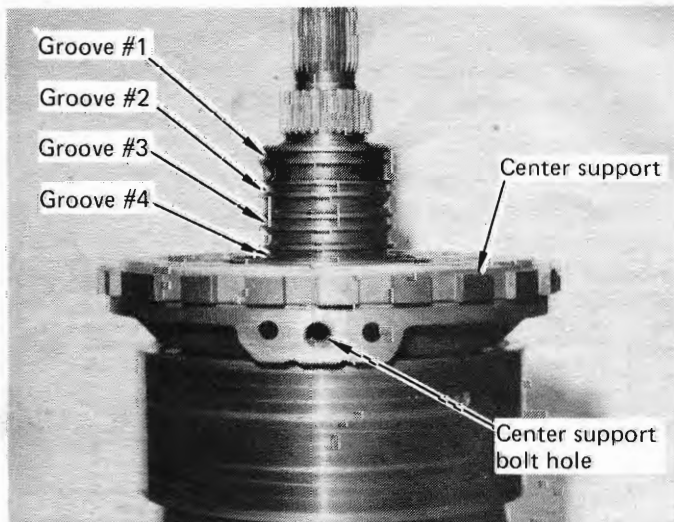

FIGURE 42
STEP 14. Install sealing rings in position. (See Fig. 42)
STEP 9. Support the case so it is off the ground to provide clearance for the output shaft. When you install the geartrain, make sure you align the center support bolt hole with the hole in the case. (See Fig. 42) Install the geartrain assembly. Do this in one smooth operation, tapping down on the outer edge of the center support, with the assembly in the case, to seat the geartrain. Check for proper alignment of the center support bolt hole. (See Fig. 7)